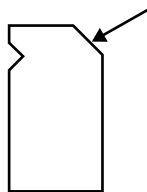

Figure 7
- b. Which measuring tool can be used to check the angle of the bevel, indicated with an arrow, in Figure 7? 1 mark